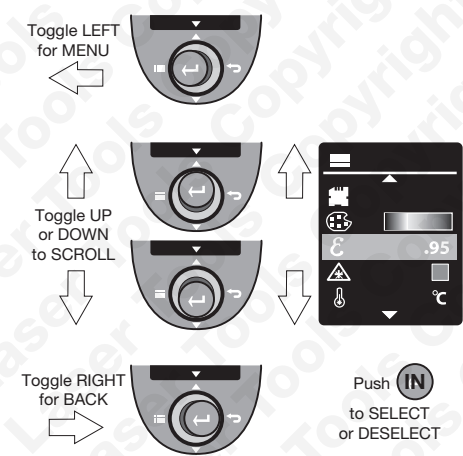

Fig. 4
- Once software has loaded (8-10 seconds), make yourself familiar with the toggle control **H**. The toggle control moves left, right, up and down to select the menu and scroll through associated functions, and is also pressed **in** to select and deselect various functions (see Fig. 4).
Refer to Fig. 4